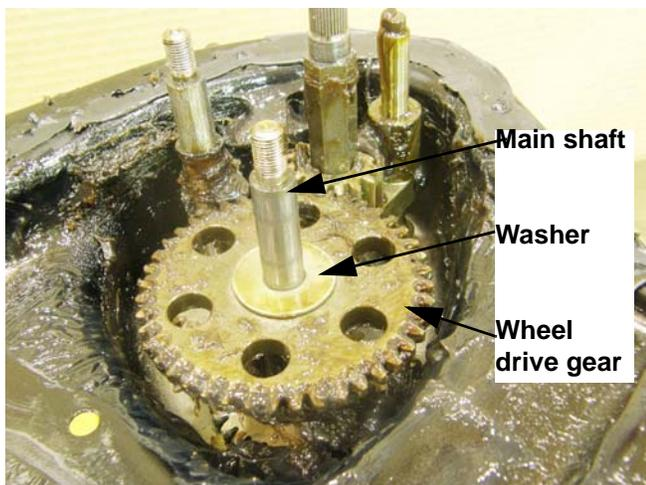

Figure 5.40
5. Lift the washer off of the main shaft. See Figure 5.40.